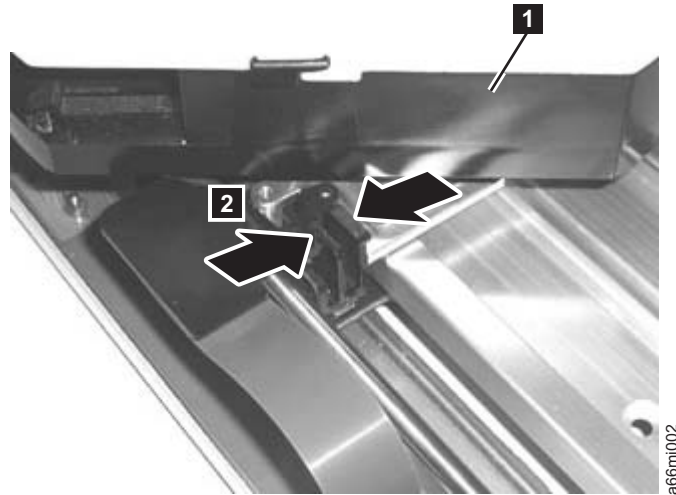

Figure 8-48. Flat cable connector
5. Facing the library, rotate the Picker Assembly until the front of the Picker Assembly is oriented approximately 45 degrees right of center, as seen from the top of the library, to access the flat cable connector (**1** in Figure 8-48 on page 8-52).
6. Pinch the top of the connector (**2** in Figure 8-48) and lift up to disconnect it.
3. Facing the library, rotate the Picker until the front of the Picker Assembly is oriented approximately 45 degrees right of center, as seen from the top of the library, to access the flat cable connector (**1** in Figure 8-48).
4. Pinch the top of the connector (**2** in Figure 8-48).
4. Rotate the Picker Assembly with the grippers pointing toward 11 o'clock (**1** in Figure 8-48 on page 8-52) to expose the flat cable connector.
5. Pinch the top of the connector (**2** in Figure 8-48 on page 8-52) and lift up to disconnect it.
5. Plug in the connector (**2** in Figure 8-48 on page 8-52).